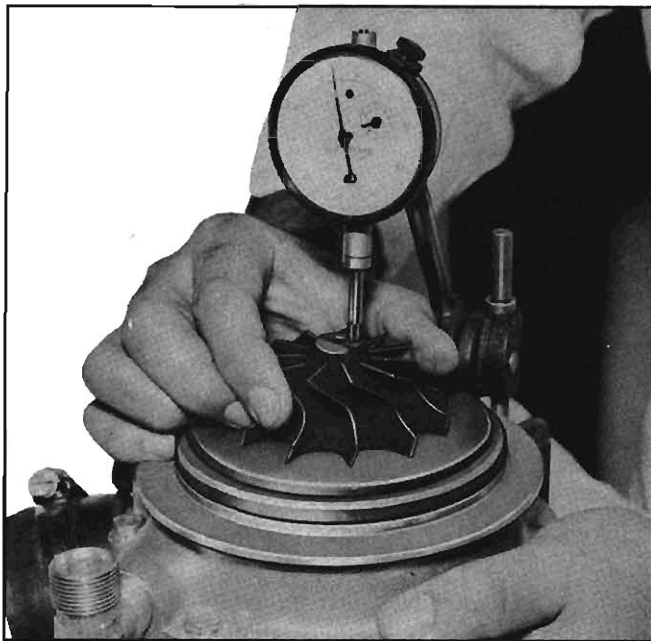

Fig. 49—Gauging Impeller-to-Housing Clearance
- b. Install gasket and compressor housing in place on bearing housing and install every other bolt (3). Torque the bolts to 80 inch lbs.
- d. Position a dial indicator as shown in Figure 49 with indicator point resting on turbine hub and set at zero. Lift straight up on the turbine wheel as far as it will go and note indicator reading. (Repeat impeller lift at least once to check your reading.)